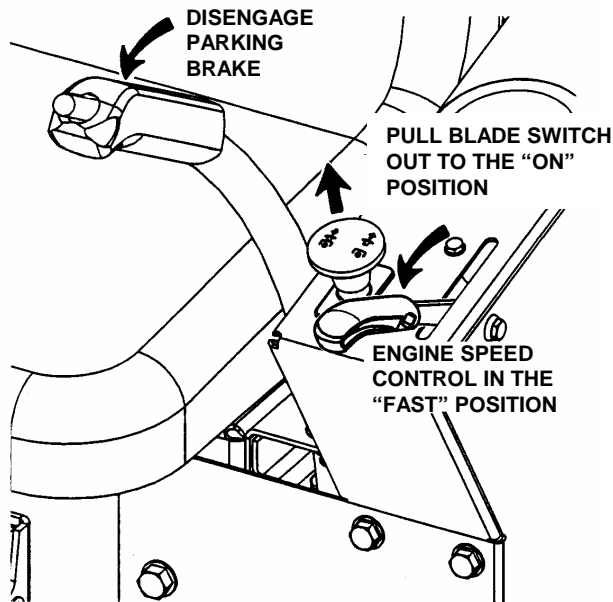

FIGURE 2.7
2. Pull the blade switch out into the "ON" position to engage the mower blades. See Figure 2.7.
3. Release the parking brake. See Figure 2.7.
3. Release parking brake by pushing button at the top of lever and moving brake lever forward to the "OFF" position. See Figure. 2.7.
1. Push the blade switch in to "OFF" position to disengage or stop the mower blades. See Figure 2.7.